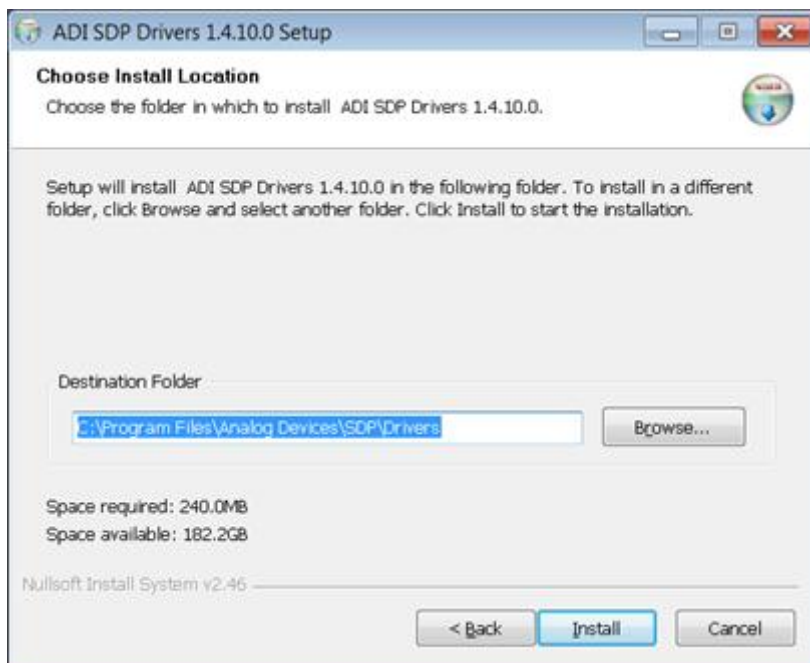

Figure 7. Verify the Destination Folder
3. Click **Install** after verifying the program folder. Ensure that the system environment has enough space (see Figure 7).